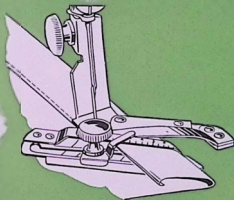

Fig. 43. Showing How Adjustable Hemmer is Used for Making Hems up to 15/16 Inch Wide
4. Place cloth in hemmer and draw it back and forth until hem is formed, as shown in Fig. 43.